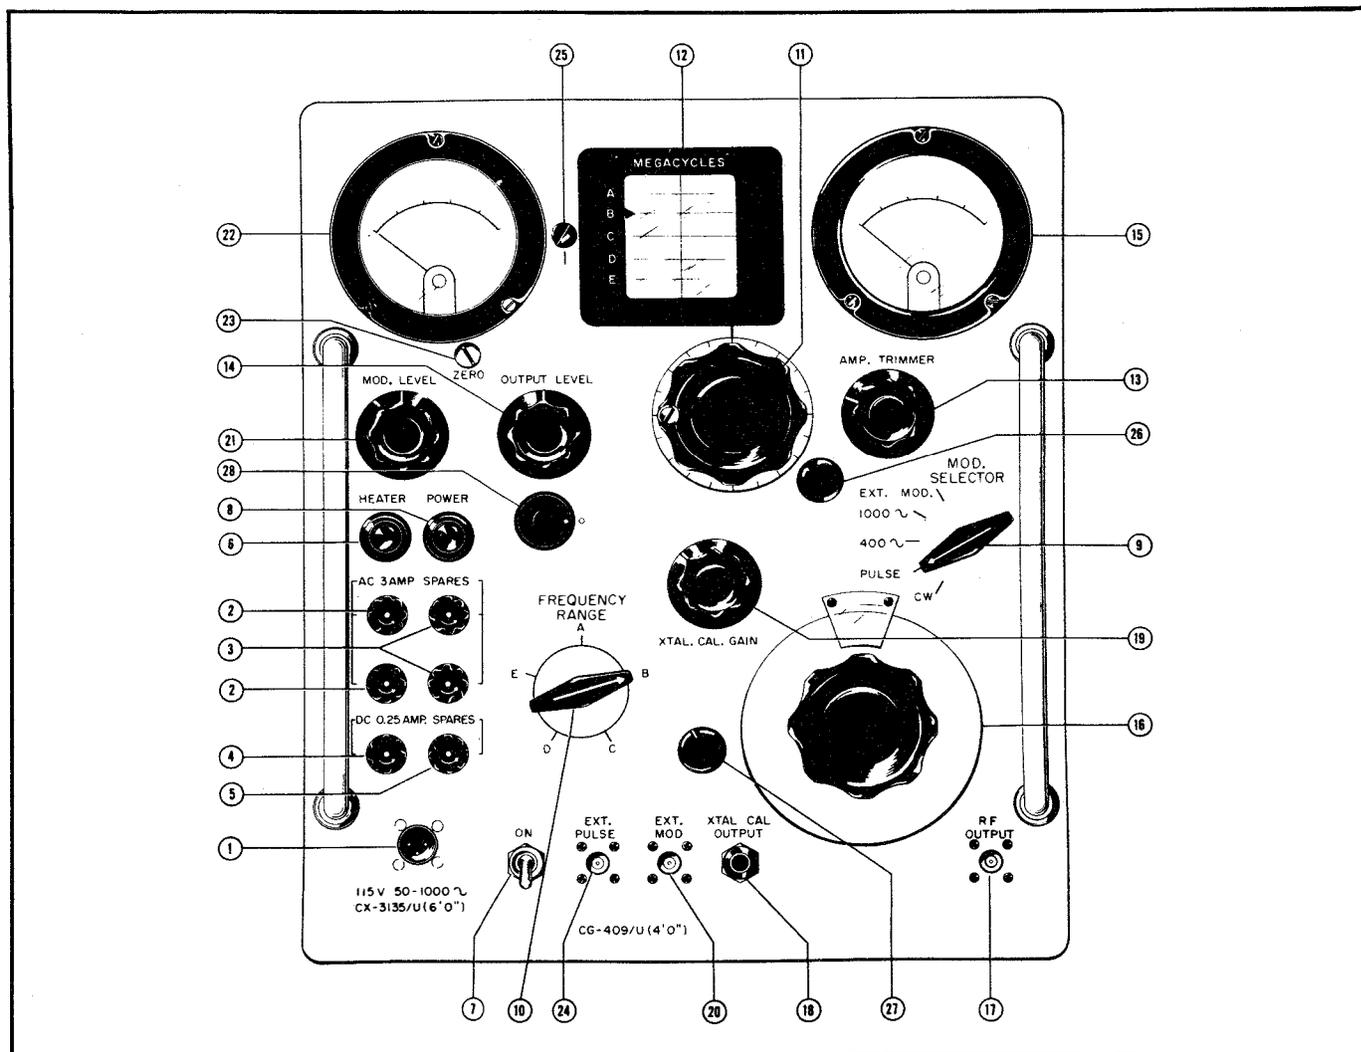
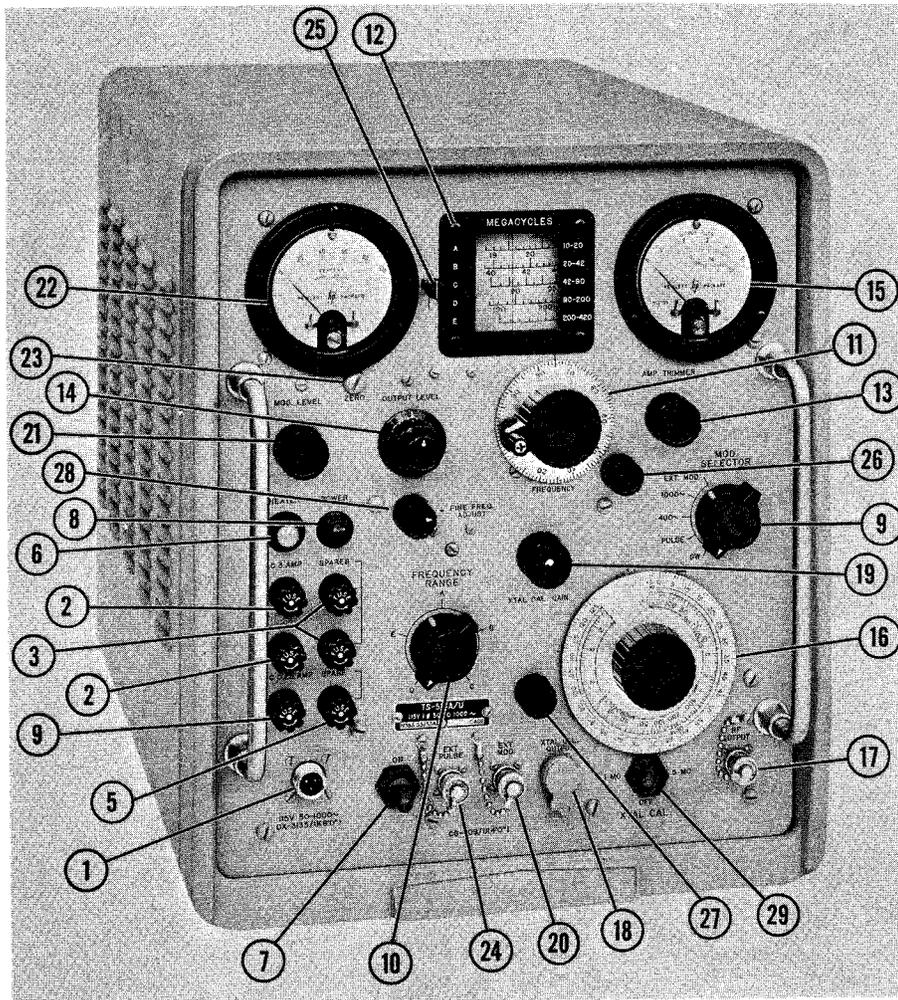
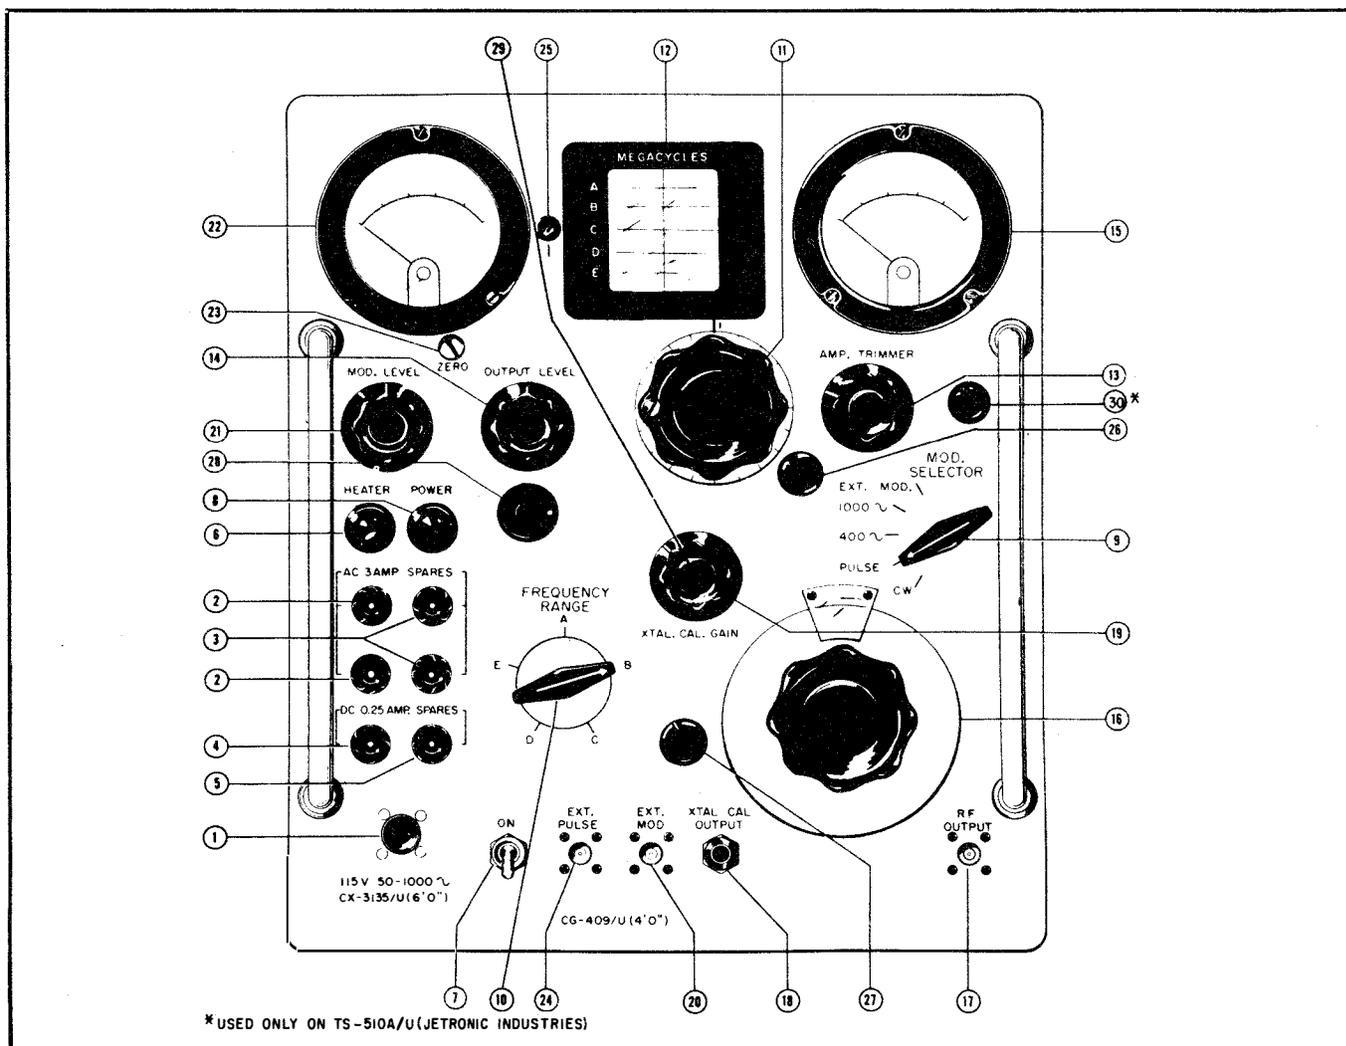
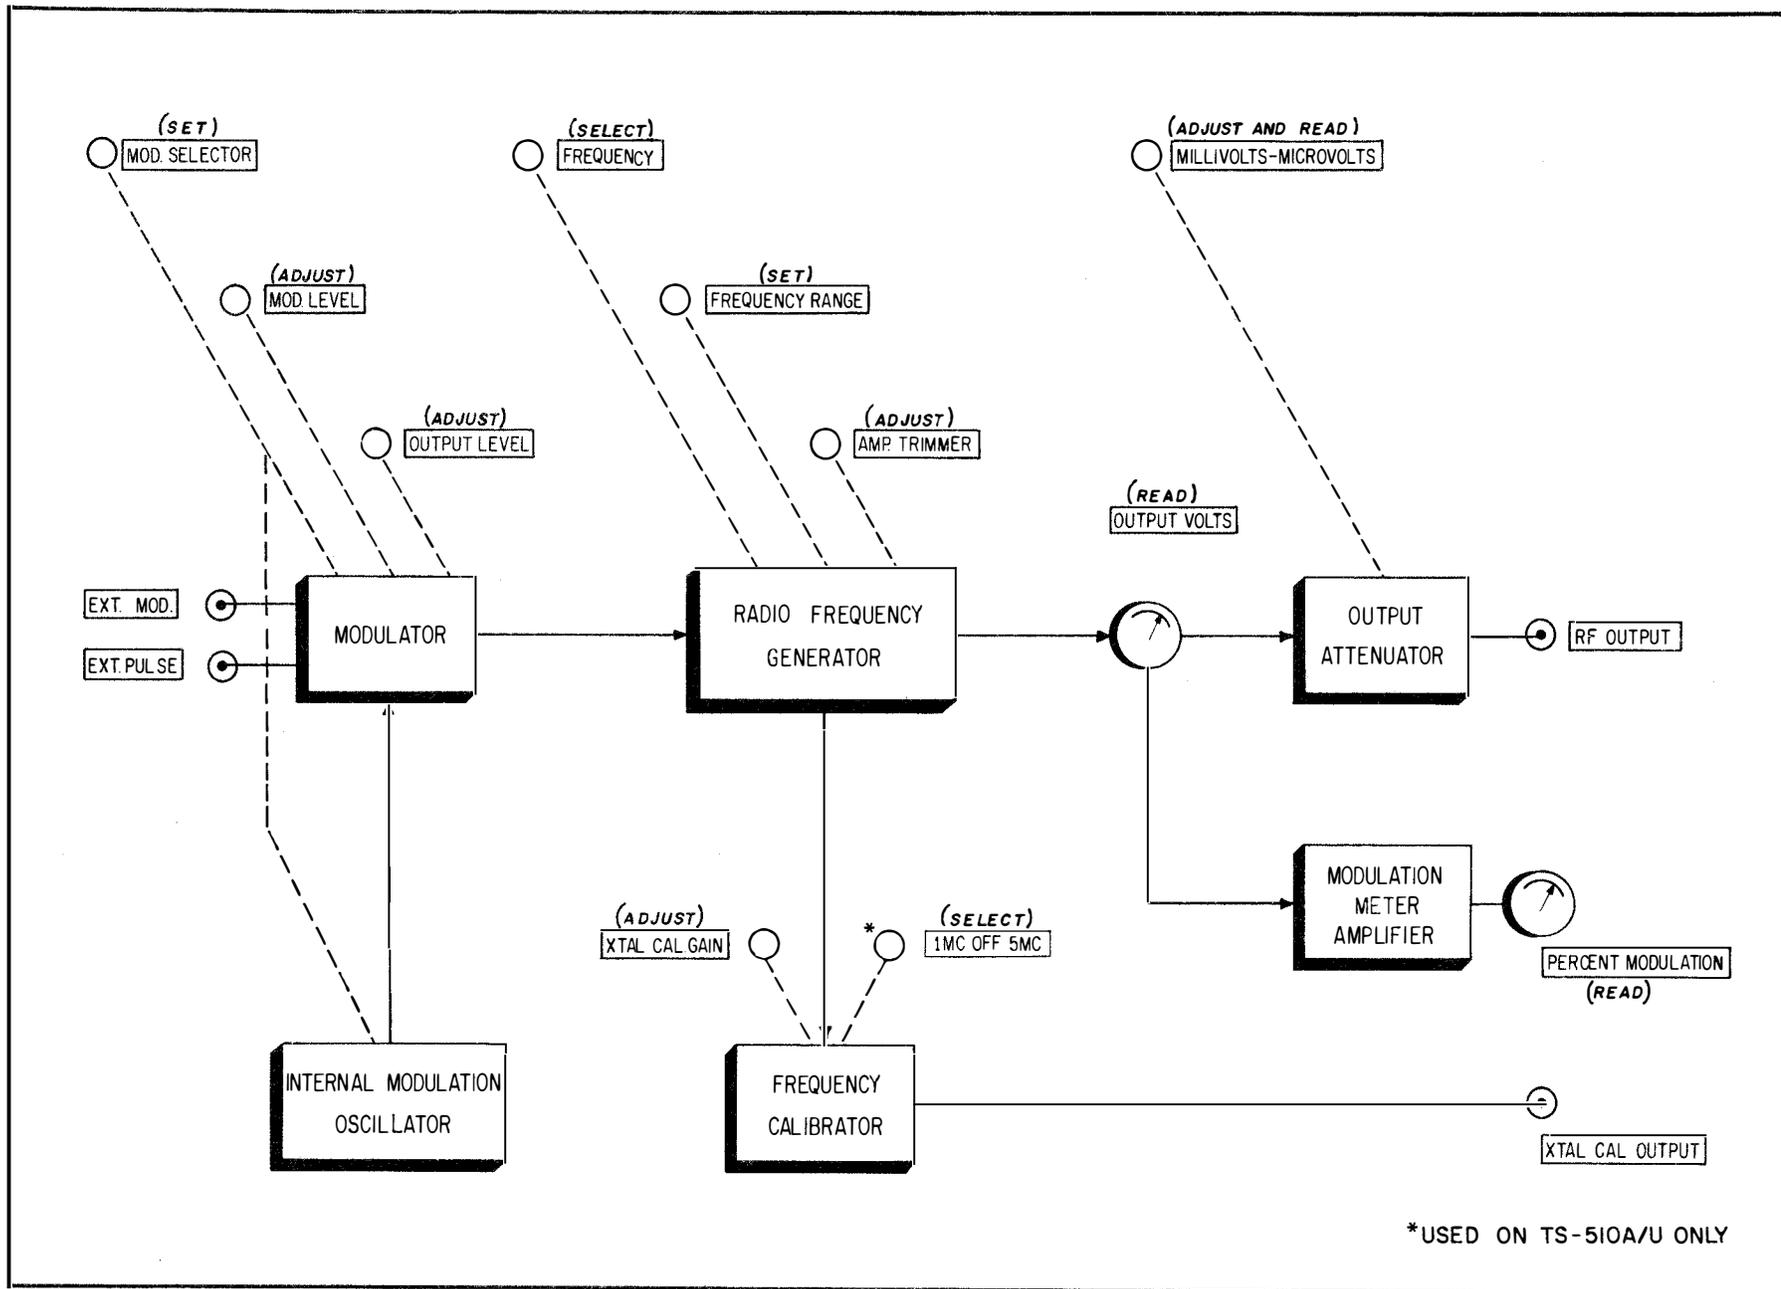

Figure 2-1. Signal Generator TS-510/U (Hewlett-Packard) Front Panel Controls
Figure 2-2. Signal Generator TS-510A/U (Hewlett-Packard) Front Panel Controls
Figure 2-3. Signal Generator TS-510A/U (Nuclear Electronics and Jetronic Industries), Front Panel Controls
Figure 2-4. Diagram Showing Relationships of Front Panel Controls to Major Circuits
1-32. FINE FREQ. ADJUST CONTROL. Beginning with serial number 510, the TS-510/U Signal Generators are equipped with a short range incremental tuning device for making extremely small changes in the output signal frequency. The FINE FREQ. ADJUST control is operated by an additional knob on the front panel and provides from 0.01 to 0.2% adjustment in the output frequency after selection by the main frequency control dial. The addition of the FINE FREQ. ADJUST control does not alter the circuit, operation, or specifications for the signal generator. The FINE FREQ. ADJUST control is illustrated in figures 2-2 and 2-3, item 28.
1-35. OUTPUT ATTENUATOR CONTROL, TS-510/U AND TS-510A/U(*). (See figures 2-1 and 2-3.) The accuracy of the attenuator dial is within ± 2 decibels for all conditions of operation at rated load.
1-36. OUTPUT ATTENUATOR CONTROL, TS-510A/U(**). (See figure 2-2.) The accuracy of the attenuator dial is within ± 1 decibel for all conditions of operation at rated load.
2-8. The front panel operating controls, dials, and terminals for the TS-510/U and the TS-510A/U are listed with their functions in Table III and are shown in figures 2-1, 2-2, 2-3, and 2-4. Figure 2-1 shows the front panel layout for the TS-510/U, figure 2-3 shows the front panel layout for the TS-510A/U(*), and figure 2-2 shows the front panel layout for the TS-510A/U(**). A simple block diagram showing which circuits in the signal generator are affected by the various front panel controls is shown in figure 2-4.